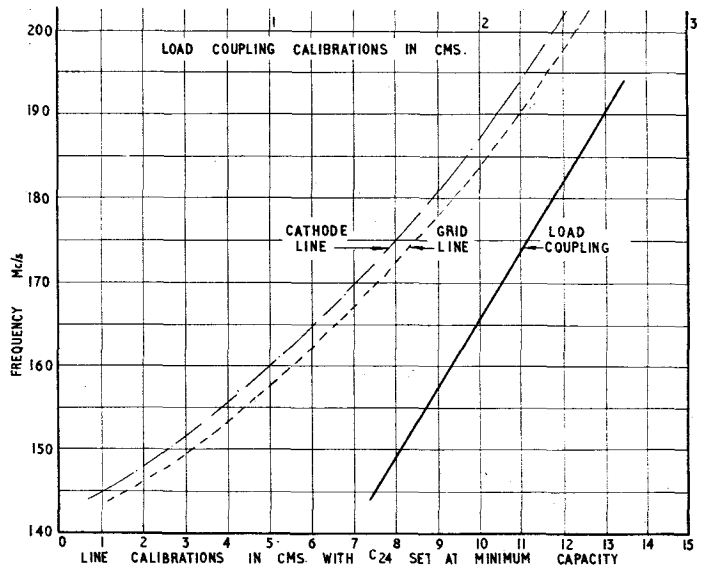
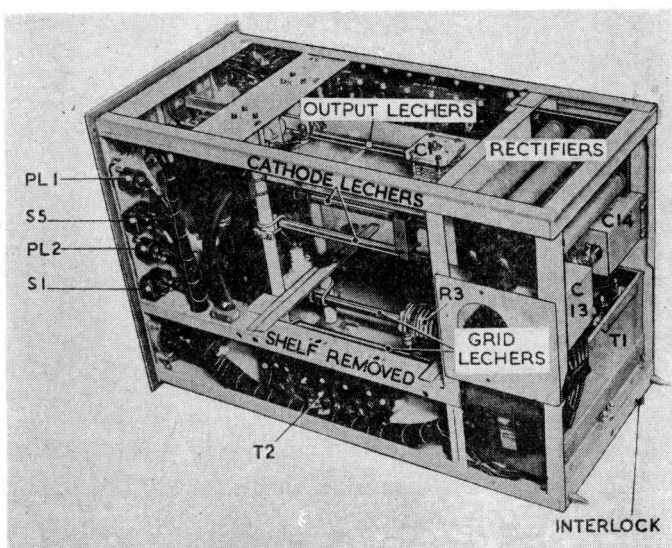

Fig. 21. Calibration chart for transmitter Type T.3117
Fig. 20. Transmitter Type T.3117 : interior
65. Disconnect the transmitter cables, and withdraw it from its case. Check that the mains tappings (*fig. 20*) are set for 230V and that the link is set to HIGH.
- (1) Connect a voltmeter, by means of a jack plug and suitable lead, into the hole marked FIL 1 VOLTS and check that a reading of 3.45V is obtained. Repeat for FIL 2 VOLTS. If the readings are incorrect, adjust the tapping clips of resistances R2 and R3 (*fig. 20*).
- (2) Set the grid and cathode lechers shorting bars to the positions shown on the graph (*fig. 21*) according to the required operating frequency. The measurements given in the graph refer to the edges of the shorting bars nearer the valve.
- (3) Set the FREQ ADJ control to its mid position.
- (4) Replace the transmitter in its case, taking care to see that it is pushed well back so that the interlock circuit is completed (*fig. 20*). Reconnect the transmitter leads.
- (5) Remove the aerial feeder and connect the artificial aerial instead.
- (6) Switch on the mains supply ; the transmitter is now ready to be set up.